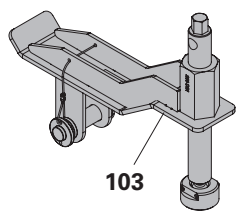

Fig. A4.03e
With the Stripping Aid MX/TR (103), remove Panels MX-2 (5) from the concrete, see Section "A20 Stripping Aid MX/TR" on page 116. (Fig. A4.03e)